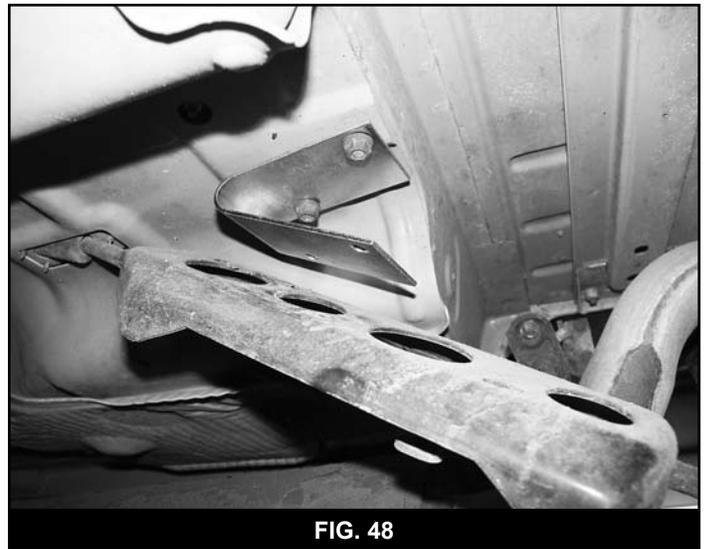

FIG. 48
38. Mount the provided emergency brake cable relocation bracket (01346) to the original mounting studs on the underside of the body (Fig 48). Fasten the bracket with the original nuts and torque to 15 ft-lbs. Note: Mount the bracket so that bend is toward the front and the longer leg of the bracket is down.